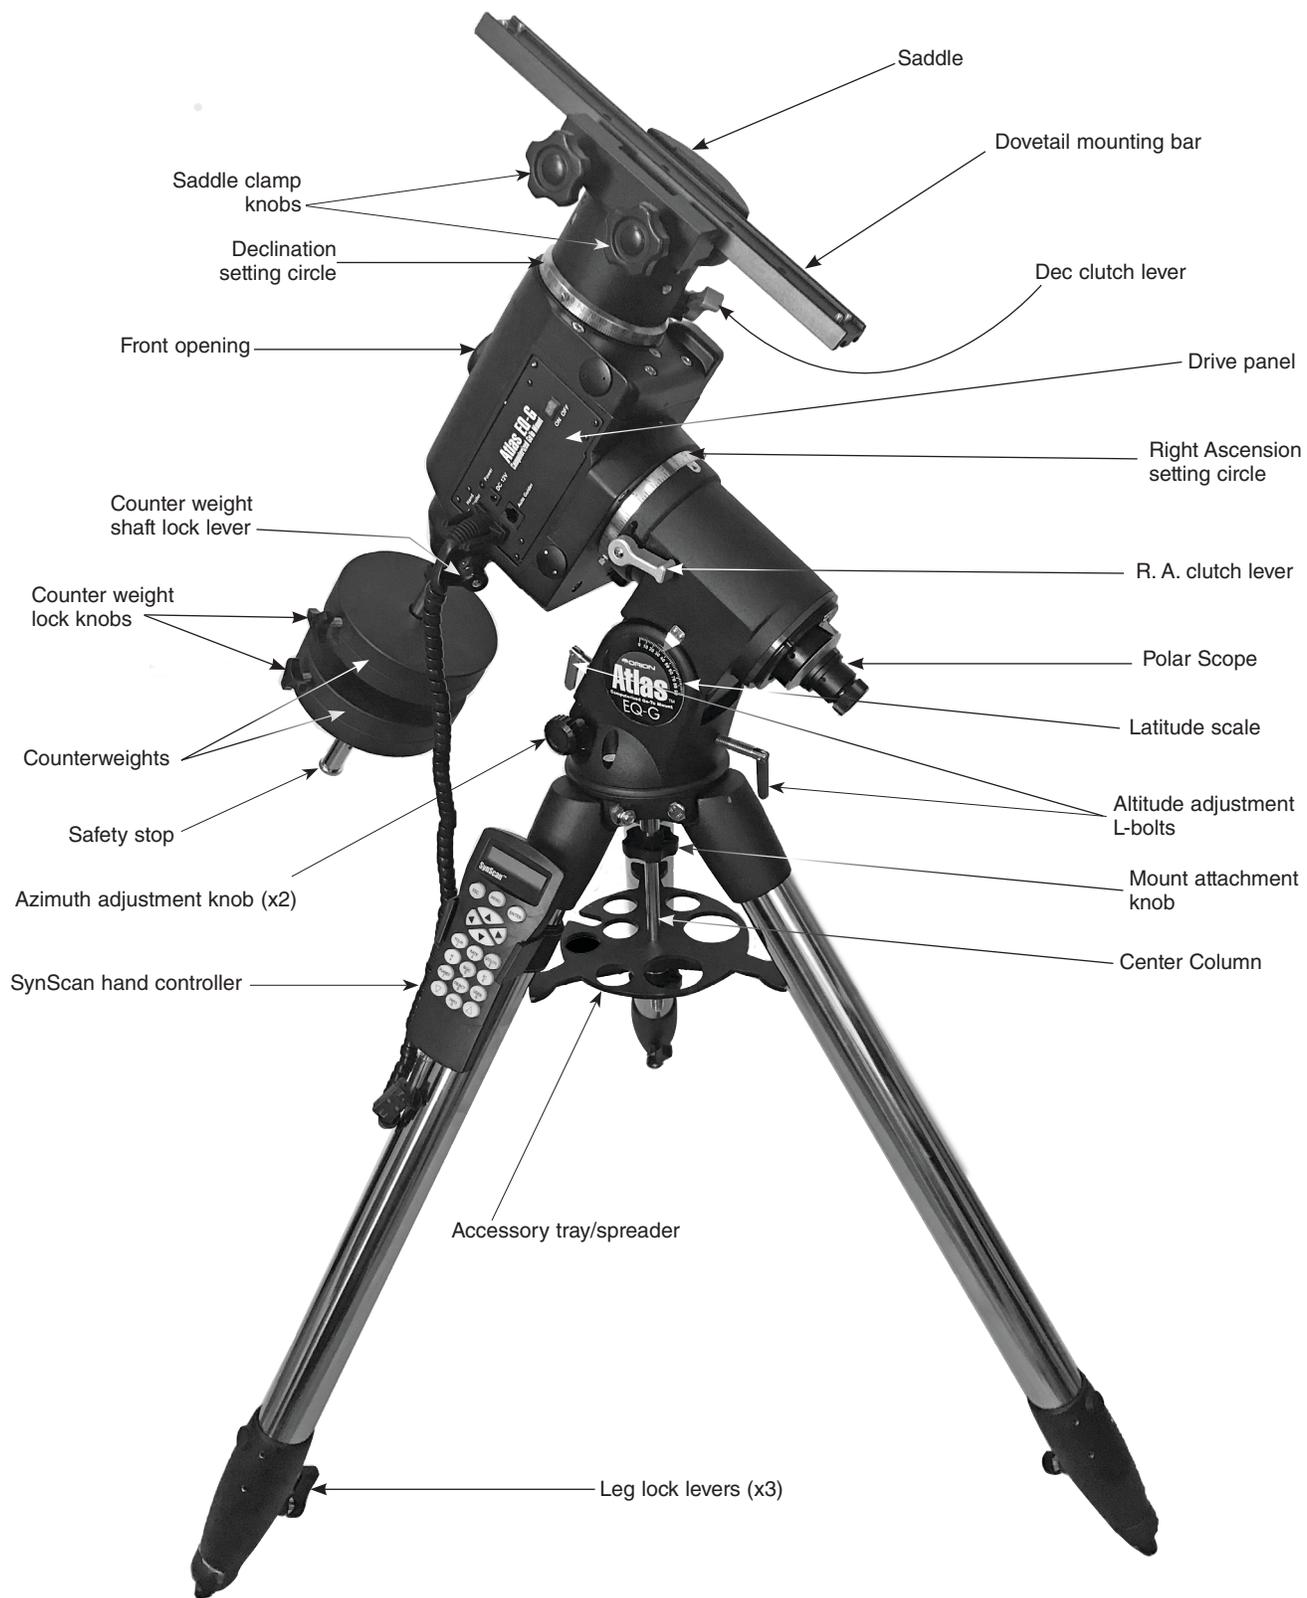

Figure 1. The Atlas EQ-G mount
Refer to **Figure 1** as needed during the assembly process.
1. Loosen the counterweight shaft lock lever (see **Figure 1**) and fully extend the shaft. Then re-tighten the lock lever.
2. Loosen the right ascension (R.A.) lock lever and rotate the R.A. axis until the counterweight shaft is pointing toward the ground, as in **Figure 1**.